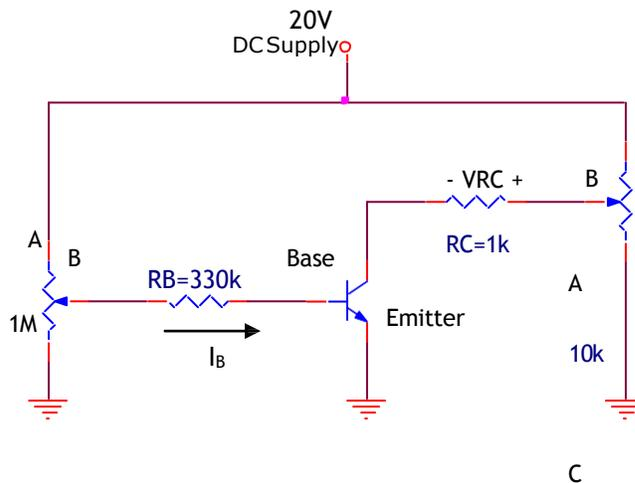

Fig. 4.1
1. Construct the circuit of Fig. 4.1. Vary the 1 $\text{M}\Omega$ potentiometer to set $I_B = 10 \mu\text{A}$ as in Table 4.1.